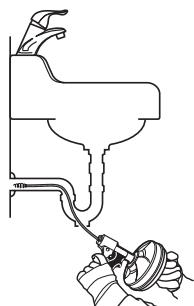

Figure 2
- Unscrew cleanout plug or remove trap (Figure 2).